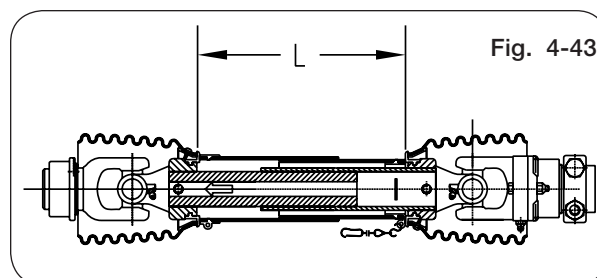

Fig. 4-43
1. Fully collapse PTO shaft and measure length "L" (Figure 4-43).